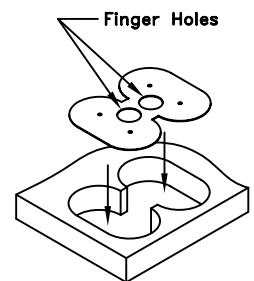

Figure 4
- Using the finger holes, slide the template through the hole. Be sure to keep the template horizontal. If there is any interference, remove before installing the grommet (Figure 4).